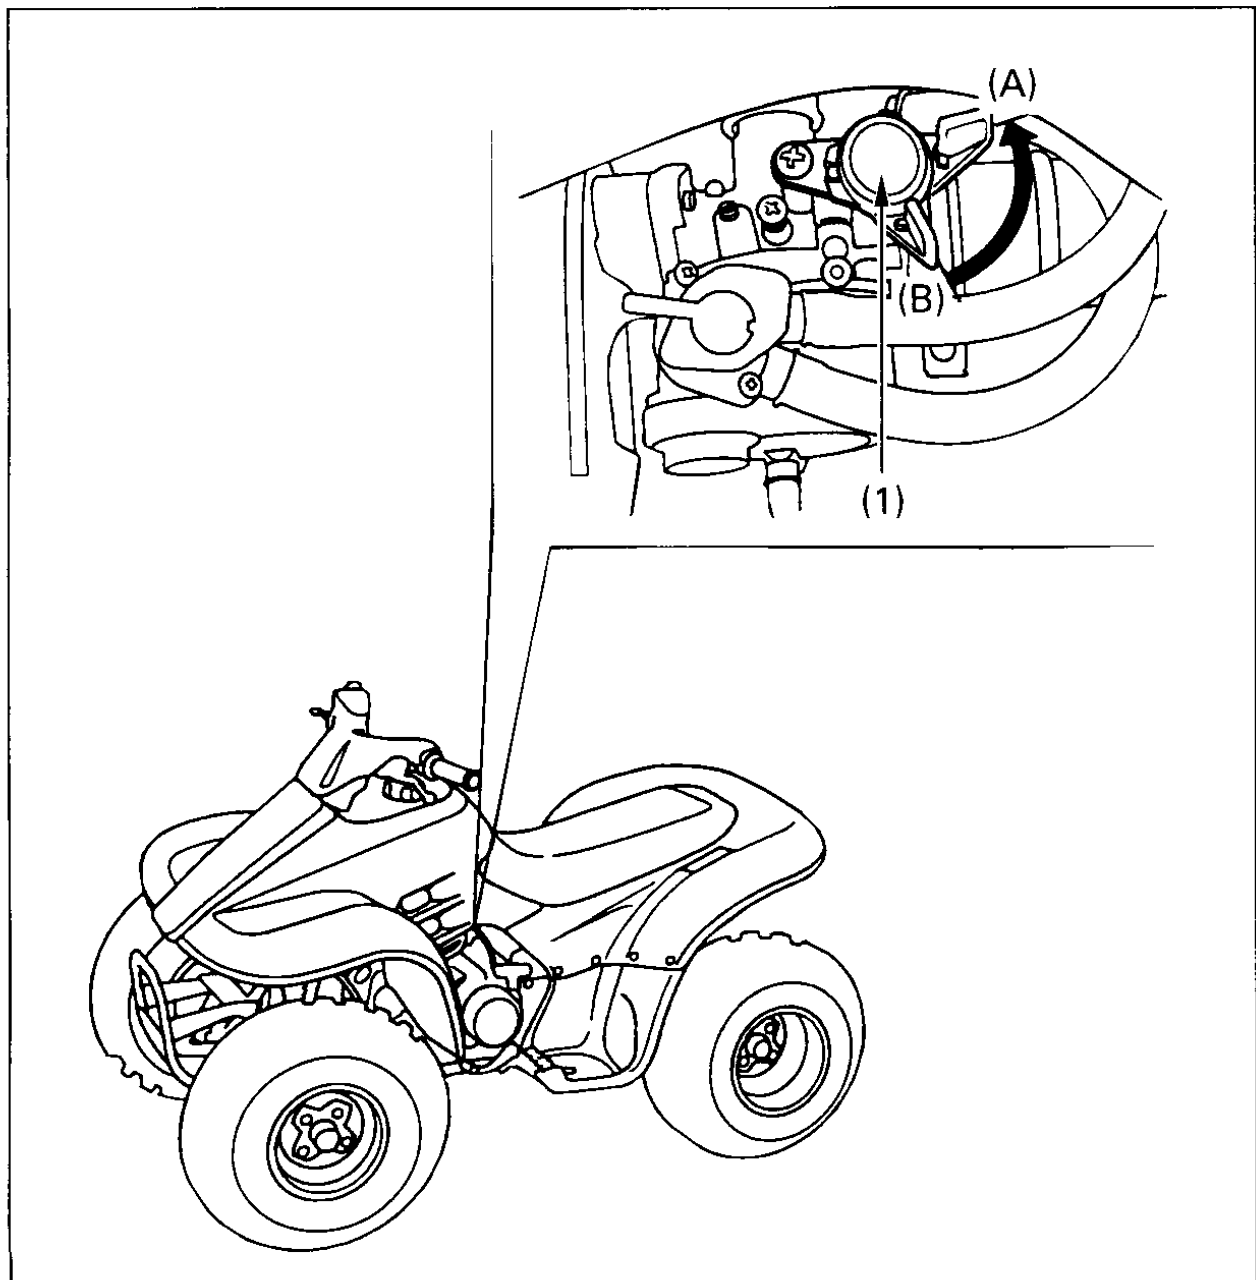

Fig. 2-7 (1) Choke lever
The choke lever (Fig. 2-7) is on the left side of the carburetor. The choke has two positions: on (A), and off (B).